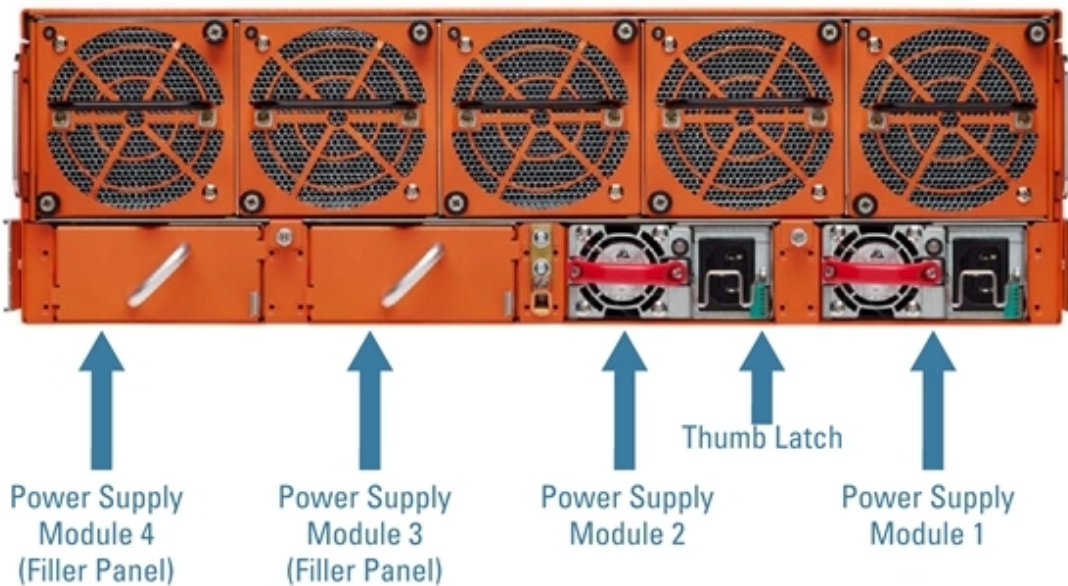

Figure 5 Power Supply Modules (AC Version Shown)
3. Carefully slide the first PSM into the matching receptacles at the lower rear of the node (Figure 5 Power Supply Modules \(AC Version Shown\)). Push gently to seat the PSM firmly in the chassis until the thumb latch snaps into place.
NOTE: If using two PSMs, leave filler panels in as shown in Figure 5 Power Supply Modules \(AC Version Shown\). The filler panels aid in air flow distribution. If a PSM fails, leave it in the chassis.